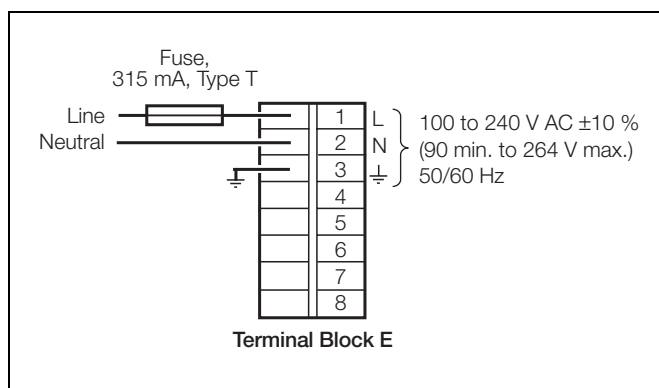

Fig. 5.9 AC Power Supply
5.6 Mains Power Connections – Figs. 5.9 and 5.10